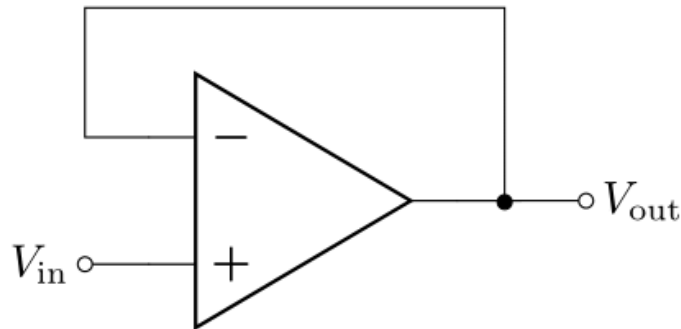
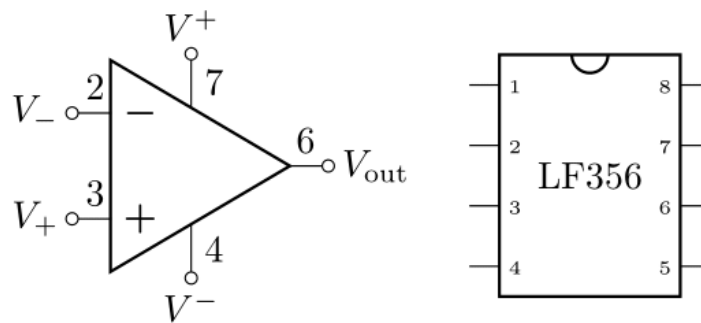

Figure 3: Voltage buffer/follower (with implied power)
Figure 6: Pin diagram for LF356 (left). The numbers correspond to the corresponding pin on the DIP chip (right)
Figure 3 shows a voltage buffer circuit. First notice there is no power to the op-amp in the diagram; often you'll find op-amp example circuits without power explicitly drawn in, but op-amps **always** need power (the power is implied - see Figure 6 for a pinout of the LF356 Op-amp that includes the power info).
7. Always have a diagram of your circuit with pin numbers labeled (like the left side of Figure 6).